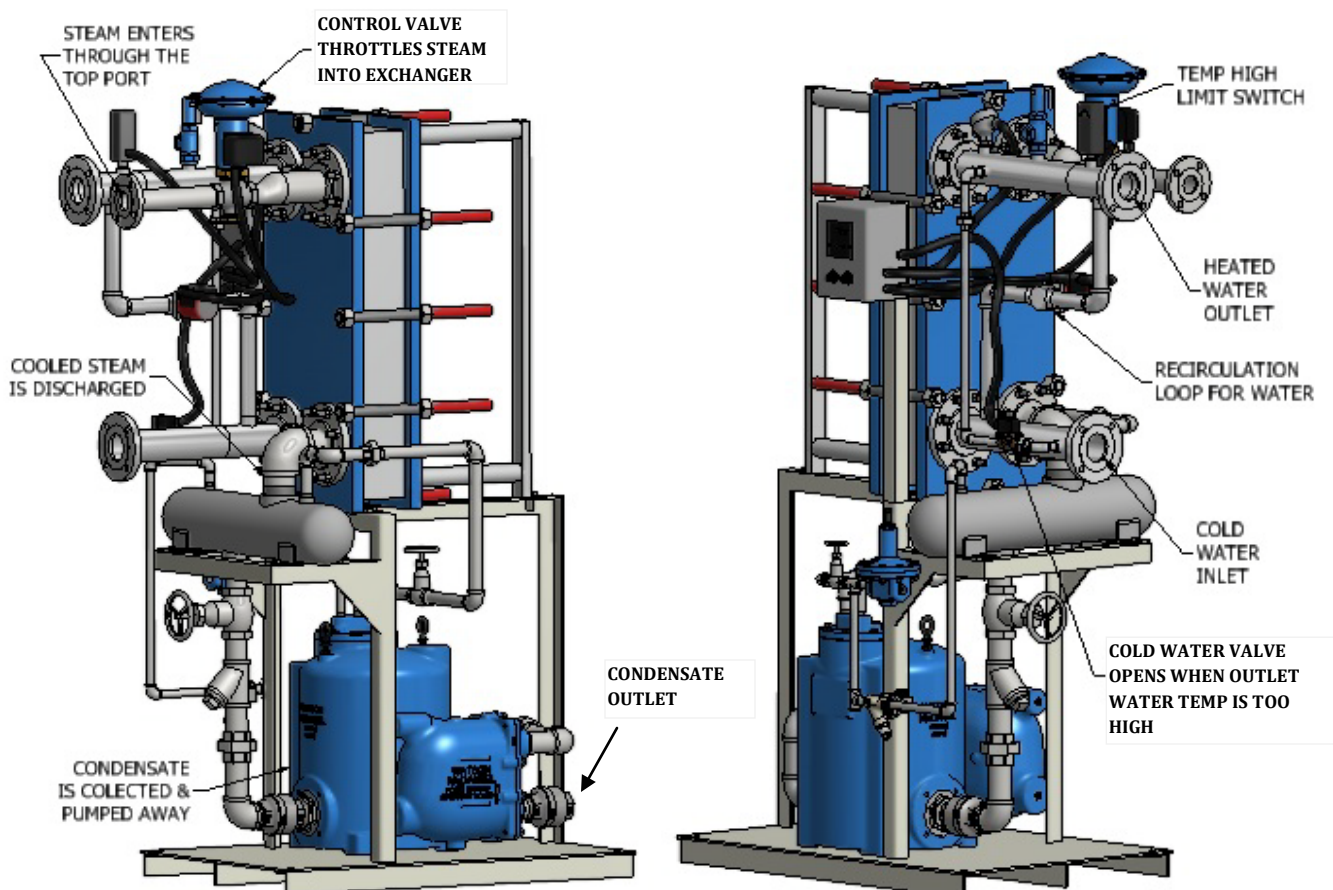

Figure 1: Typical Layout
6. Verify the direction of flow is correct for each of the 4 connections. See Figure 1 for proper installation points for steam supply, condensate return, cold water inlet, and hot water outlet.